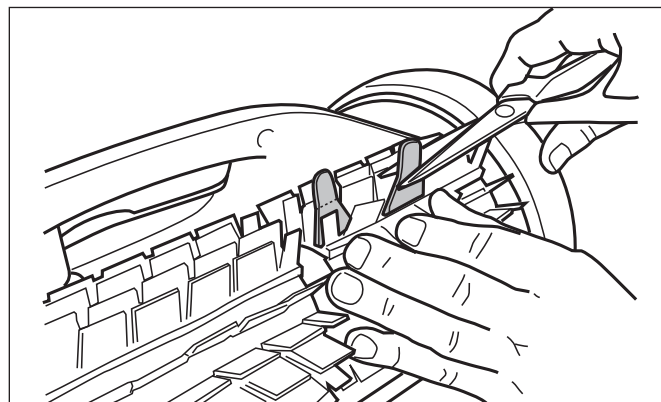

Figure 31. Cut Tabs
5. Use a pair of scissors to cut the tabs 3/4 inch from the heel so that they are no higher than the spikes as shown in Figure 31.